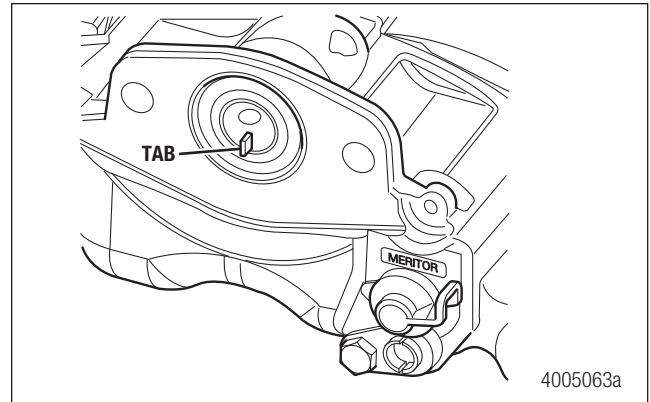
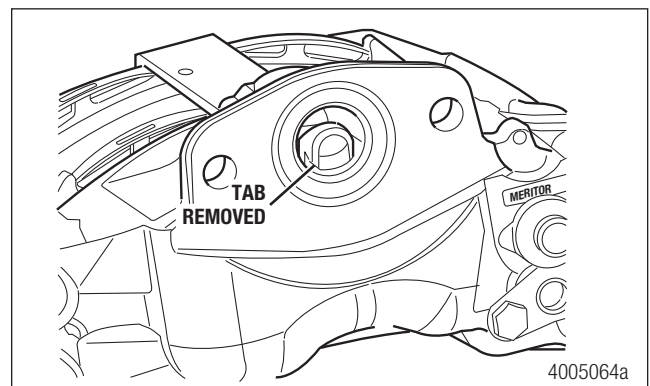

Figure 9.6
Figure 9.7
5. Before installing the air chamber onto the caliper assembly, ensure the perforated transit plug is removed from the caliper chamber seal by pulling the tab. Figure 9.6 and Figure 9.7.